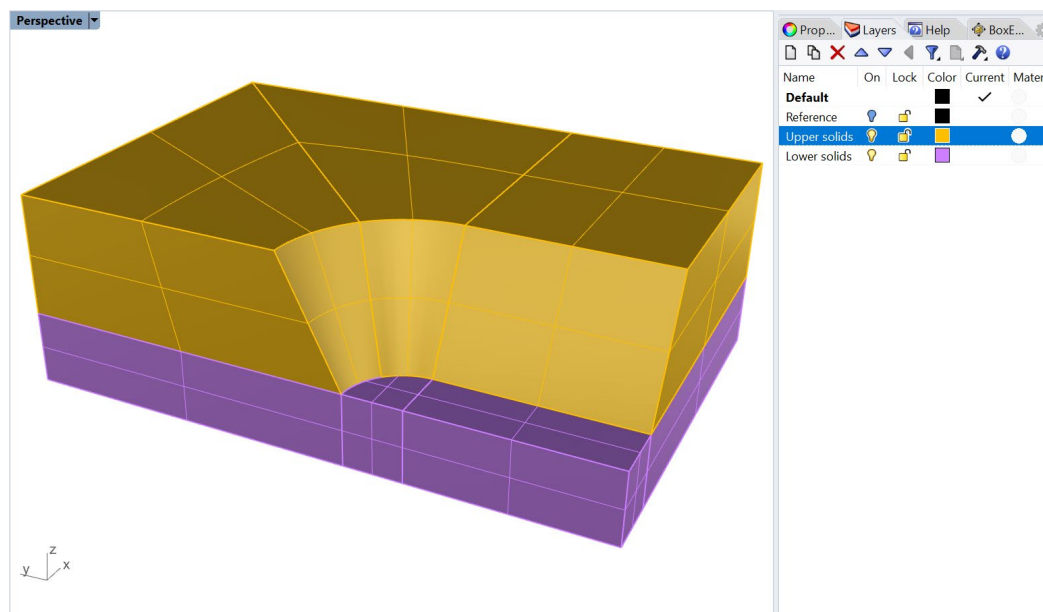

Figure 49: The model after the “Upper solids” and “Lower solids” layers have been specified.
23. Create new layers “Upper solids” and “Lower solids” in the *Layers* pane. Assign distinct colors to these layers. Select only upper solids and assign them to the layer “Upper solids” (through the *Properties* pane). Complete the same for the lower solids (Figure 49).